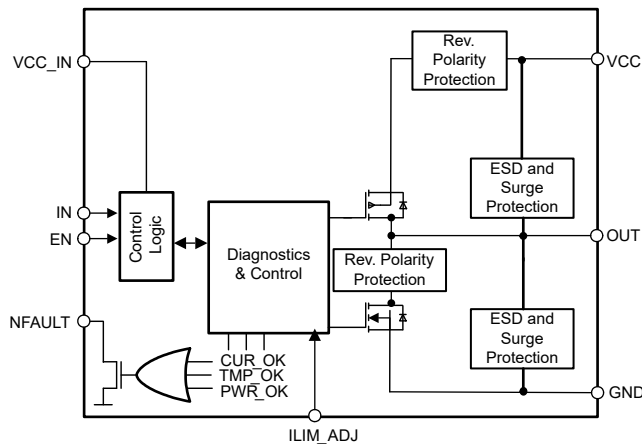

Figure 8-1. Block Diagram, TIOS102
Figure 8-1 shows that the device driver output (OUT) can be used in a push-pull, high-side, or low-side configuration using the enable (EN) and transmit data (IN) input pins. OUT can drive resistive, large capacitive or large inductive loads.